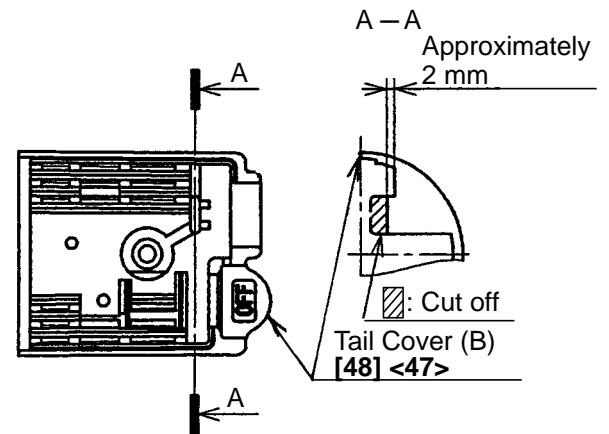

Fig. 6
- 4) Cut off the rib for holding the cord of Tail Cover (B) [48] <47> with nippers as shown in Fig. 6.